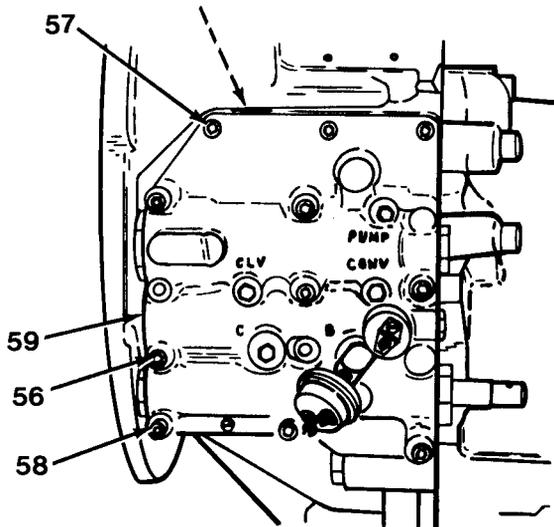

Figure 11-14
51. Install gasket (60), control valve assembly (59), 13 washers (58), three capscrews (57) and 10 capscrews (56, Figure 11-14).